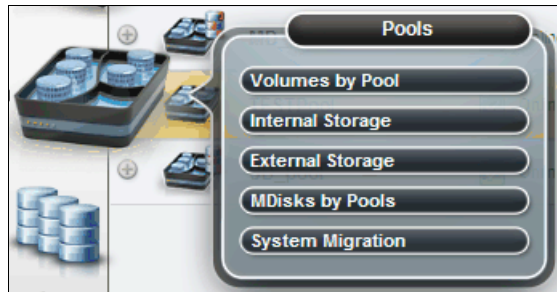

Figure 10-6 Pool menu
1. Hover your cursor over the Pools icon. The system displays the Pools menu (Figure 10-6). Click **MDisks by Pools**.